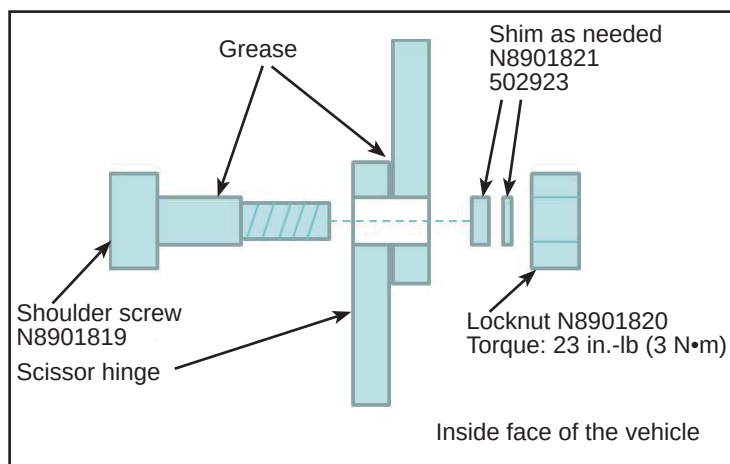

Figure 2 - Scissor Hinge Pivot Point (5x)
- 1.7. Apply a small amount of bearing grease, or equivalent, on the hinge pivot points and on then N8901819 shoulder screw shoulder section. See Figure 2.
- 1.8. Assemble the scissor hinge with the N8901819 shoulder screws and N8901820 locknuts. The locknuts must face inward once the hinges are in place. Apply torque to the specified value. See Figure 2. Apply the specified torque.
- 1.10. Try the scissor hinge movement. If it is too tight, add N8901821 and/or 502923 shims as needed under the locknut. See Figure 2.